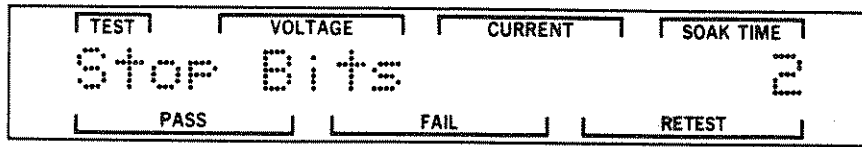

Figure 7-47. Stop Bits Screen
STEP 14. Press the DOWN pushbutton once to display the Stop Bits screen. Figure 7-47 is an example of this screen.